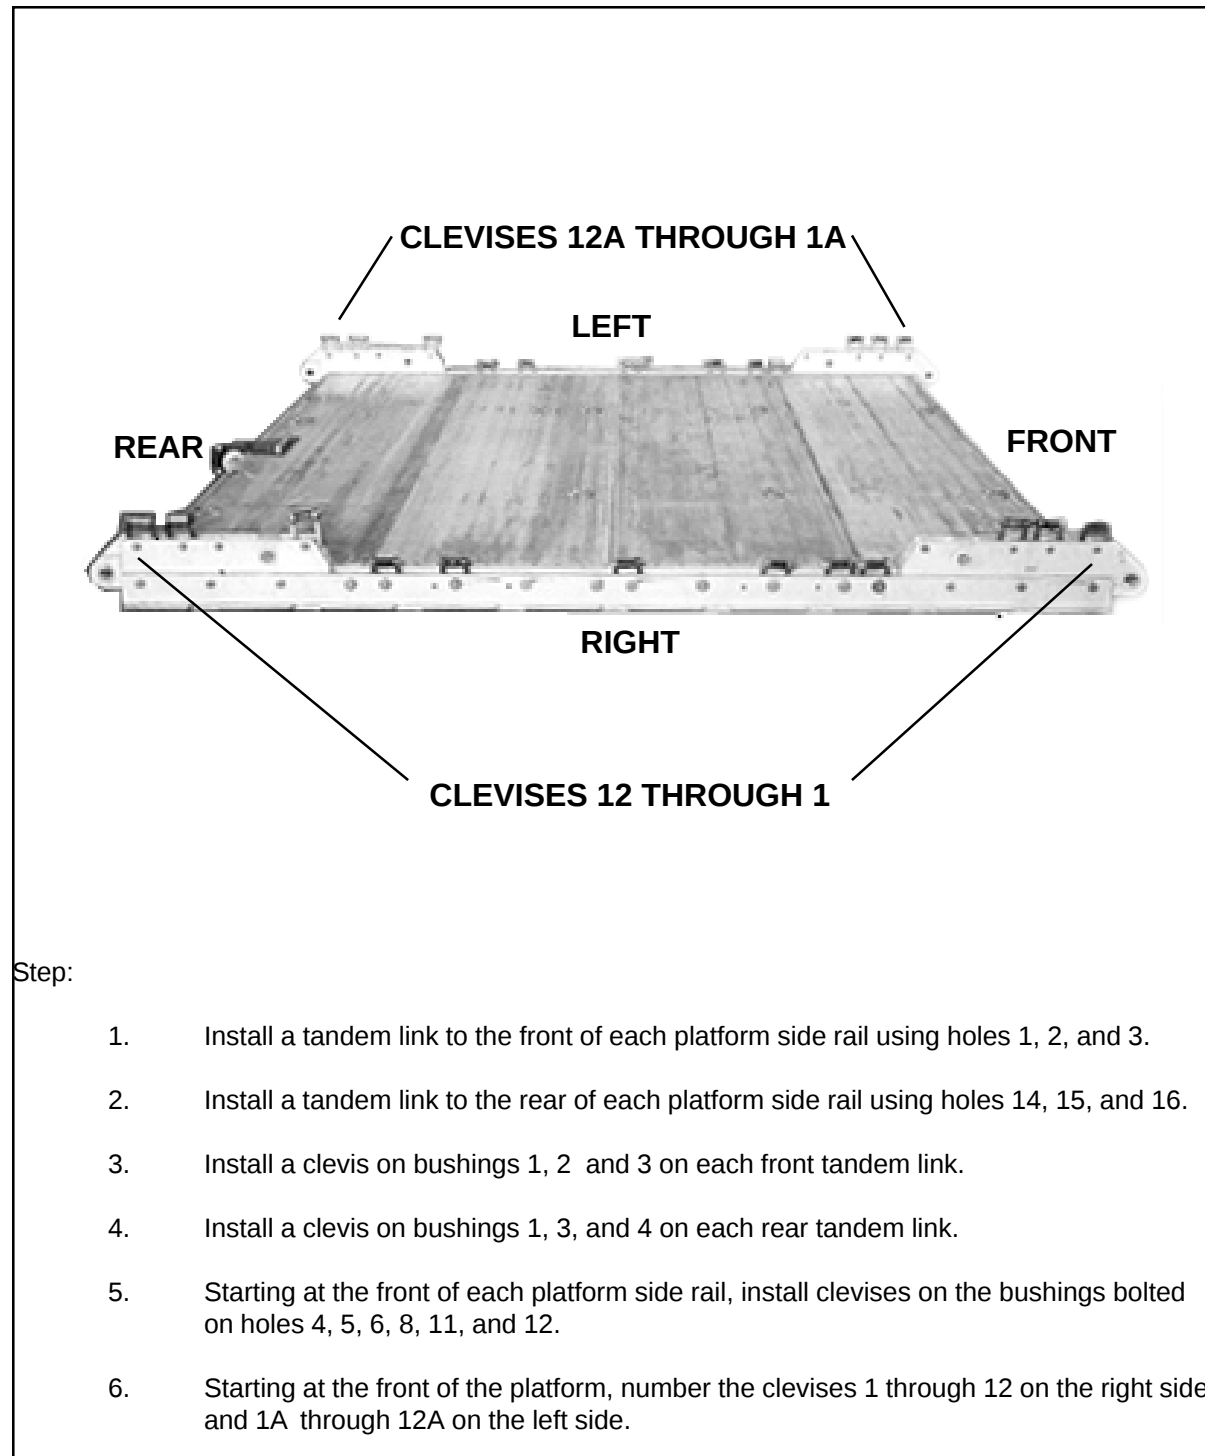

Figure 3-1. Platform Prepared
- 3-2. Prepare an 8-foot, type V airdrop platform as shown in Figure 3-1.
- b. Installing Tandem Links. Install tandem links as shown in Figure 3-1.
- c. Attaching and Numbering Clevises. Attach and number 24 clevis assemblies as shown in Figure 3-1.